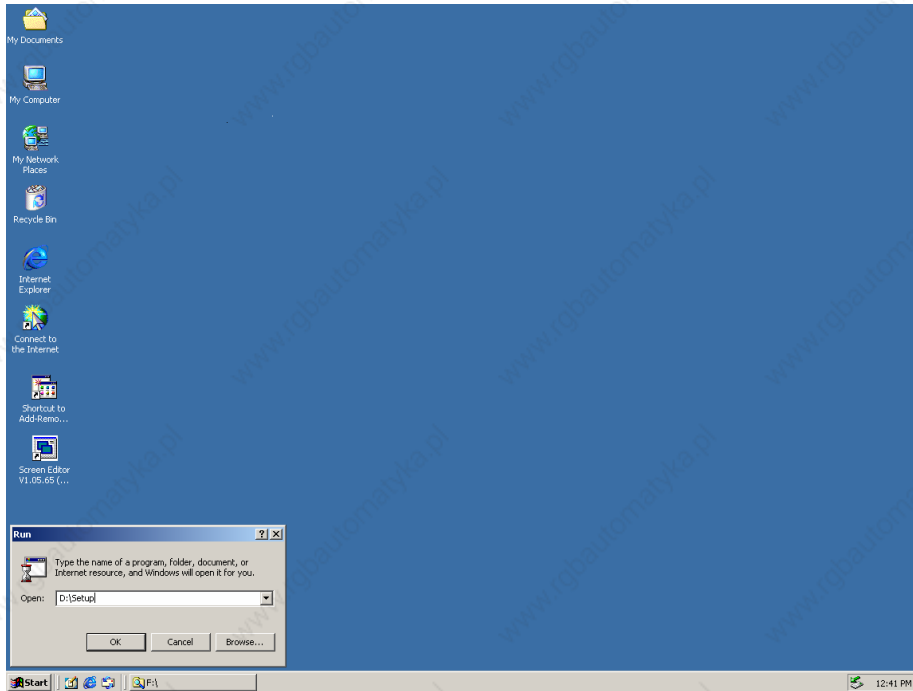

Fig. 2.1.2 Execute setup.exe under Windows system
2. Step 2: Execute **setup.exe** from Windows taskbar by clicking “**Start**” > “**Run**”. (Fig. 2.1.2)